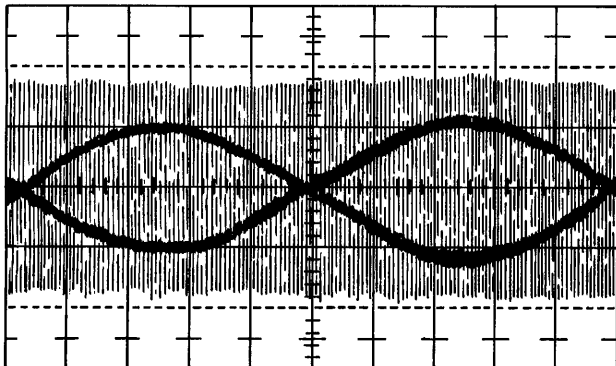

Figure 2-16. "Cat Eyes" Waveform
- d. Monitor read data playback (Figure 2-16).